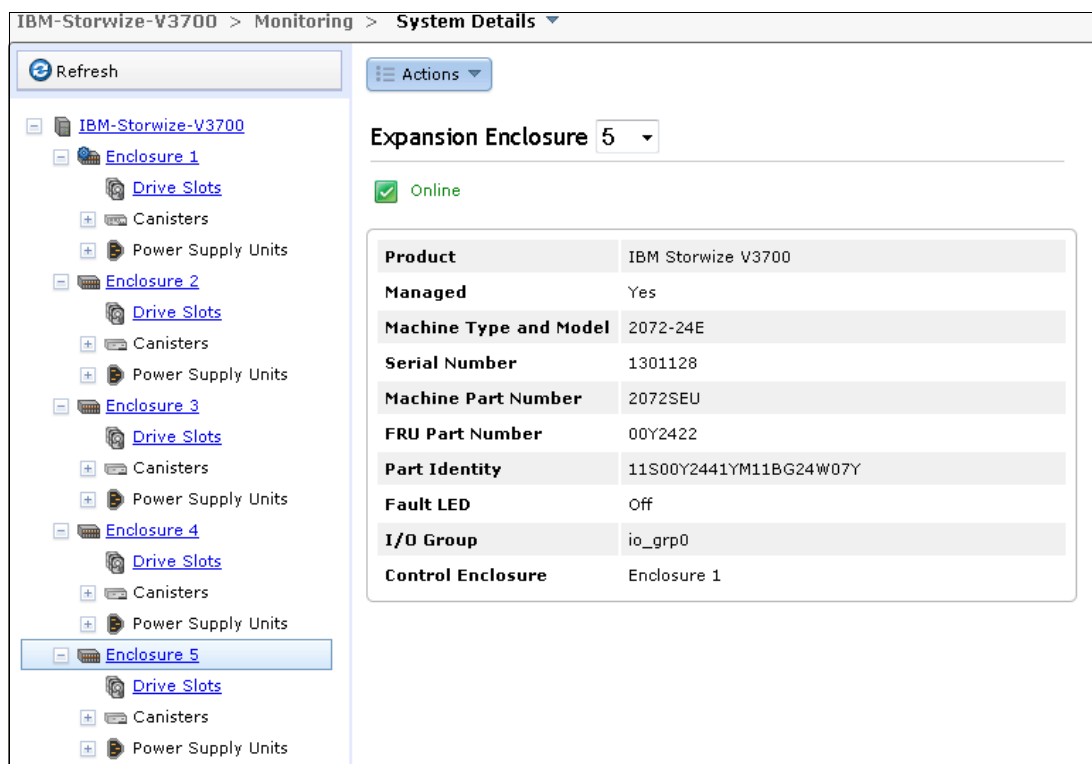

Figure 2-26 New enclosure managed
- System details will now show the new enclosure as Managed Yes as shown in Figure 2-26.